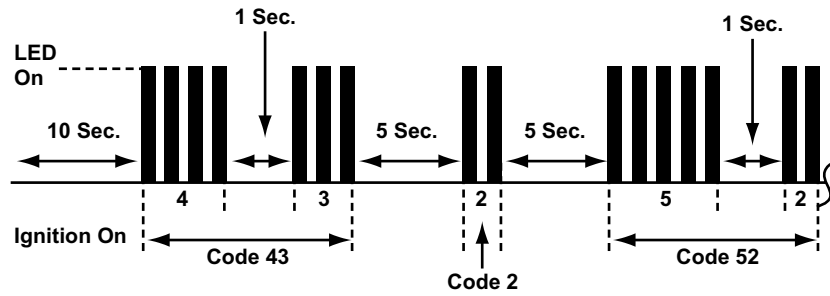

Figure 4-42 Acura ABS Code Type 12
- Type 12, see Figure 4-42 and Table 4-12 on page 36